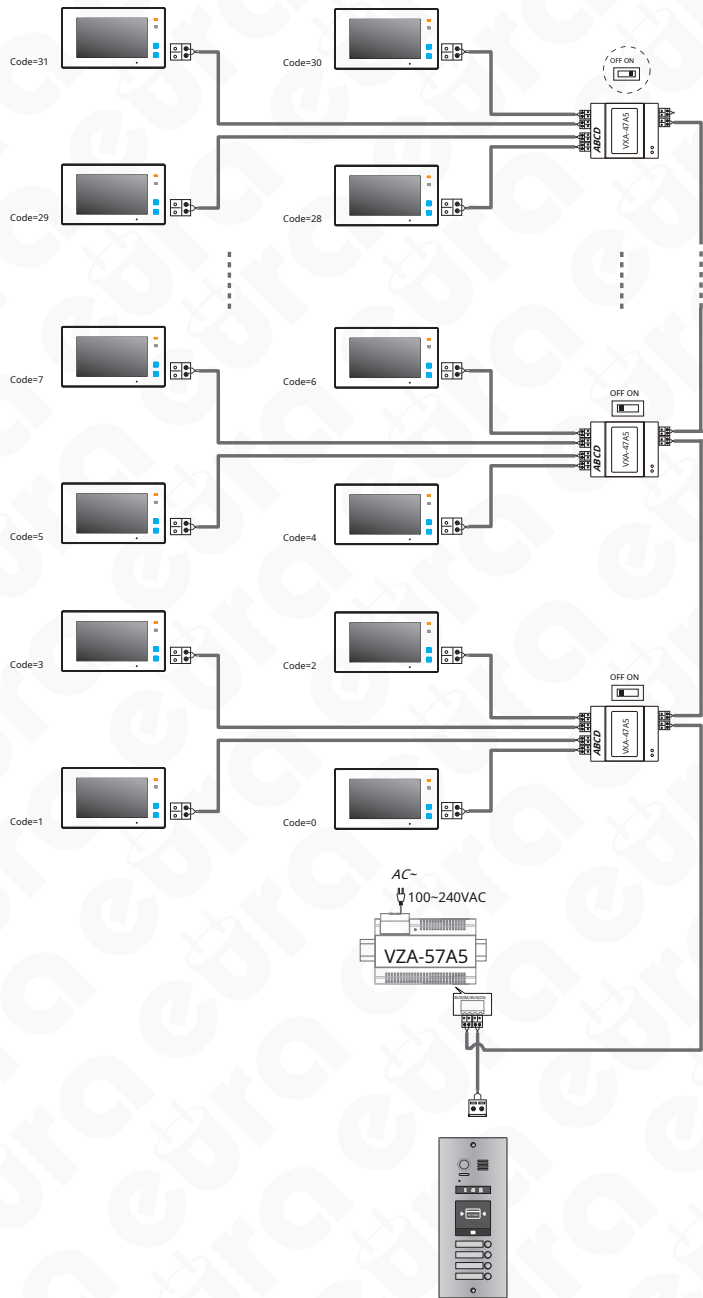

Fig. 7. Connection diagram of the modular cassette with monitors using the VXA-47A5 signal distributor
6.1. CONNECTION DIAGRAM OF THE CASSETTE WITH OTHER SYSTEM MODULES The method of connecting the modular multi-family cassette with the VZA-57A5 power supply module, the VXA-47A5 module and the monitor is shown in Fig. 7.